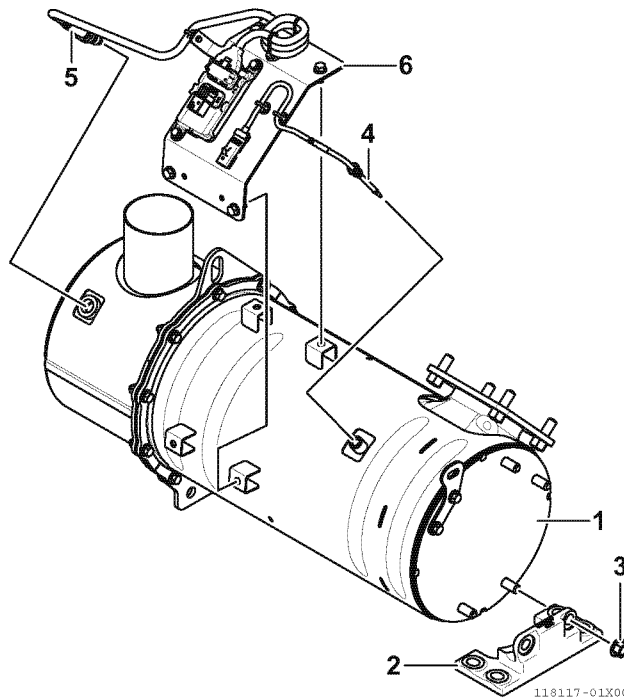

Fig.25-56
- Using studs bolts and nuts (3, Fig.25-56), attach the SCR bracket (1, Fig.25-56) to the end face (1, Fig.25-56) of the new SCR exhaust gas inlet.
- Reattach the removed SCR temperature sensor (4, Fig.25-56) and NOx sensor (5, Fig.25-56) together with the sensor bracket (6, Fig.25-56). Apply seizure prevention agent to each thread part, and tighten them.